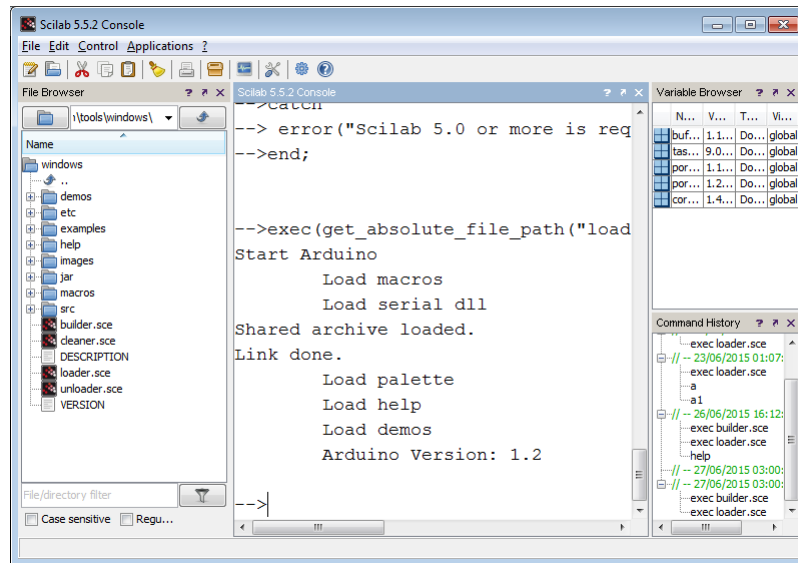

Figure 3.9: Output of loader.sce
6. Next, type the command, **exec loader.sce** - this will load the toolbox. This means all the new functions corresponding to the toolbox are all loaded in the workspace. It will also make available new Xcos blocks, if any. The output of this command is as shown in Fig. 3.9. If you clear the work space for any reason, you will have to execute this command once again³